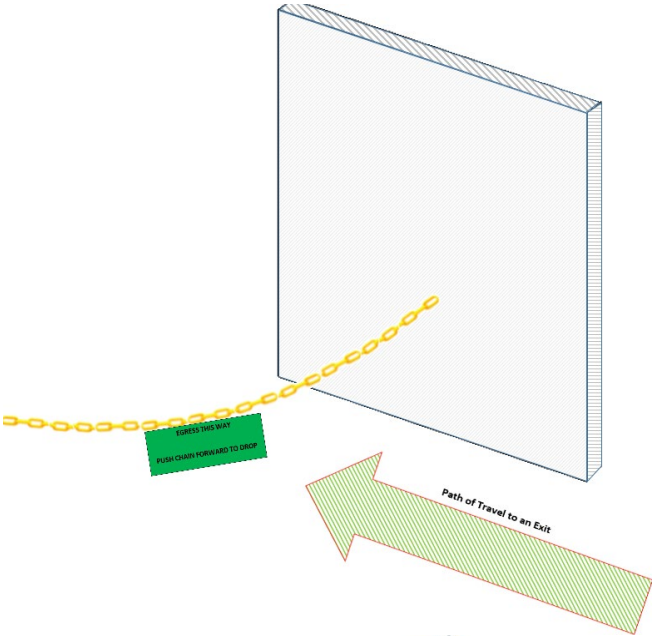

Figure 4 –
- Set up of barriers to be as per **Figure 3** and **Figure 4**.